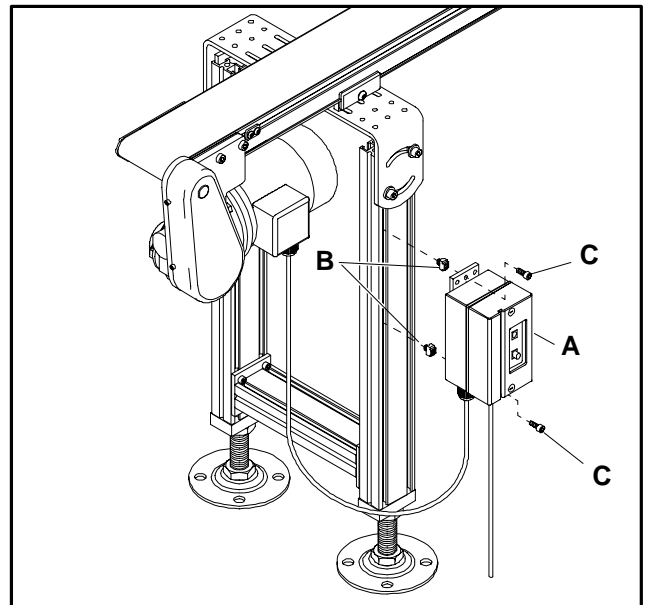
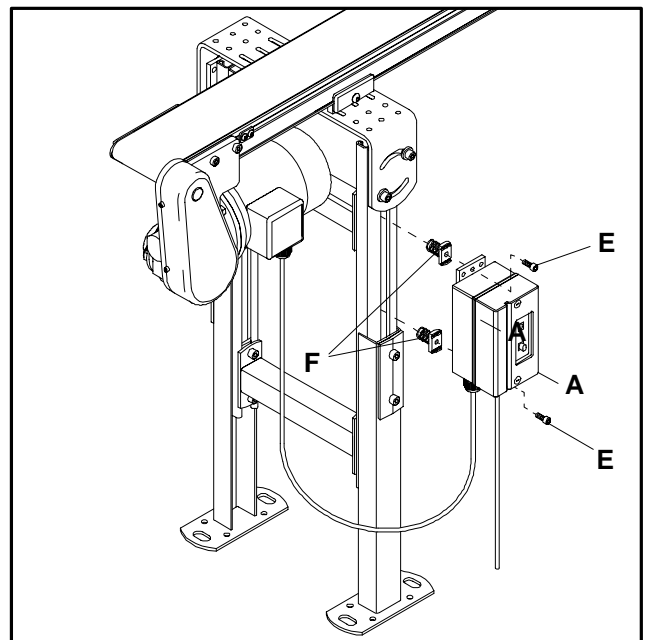

Figure 5
Figure 6
Attach the motor starter to the aluminum stand leg or single post support stand using the two (2) smaller M6 spring nuts (B) as shown (Figure 5). The starter may be attached to the steel stand leg using the two (2) larger M6 spring nuts (F) as shown (Figure 6).